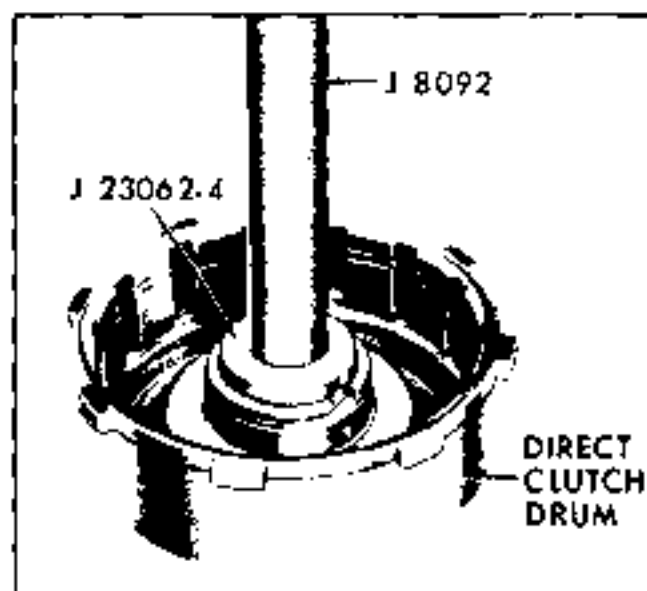

Fig. 7G-73 Installing Direct Clutch Drum Bushing
5. Remove inner and outer seals from forward clutch piston (Fig. 7G-78).